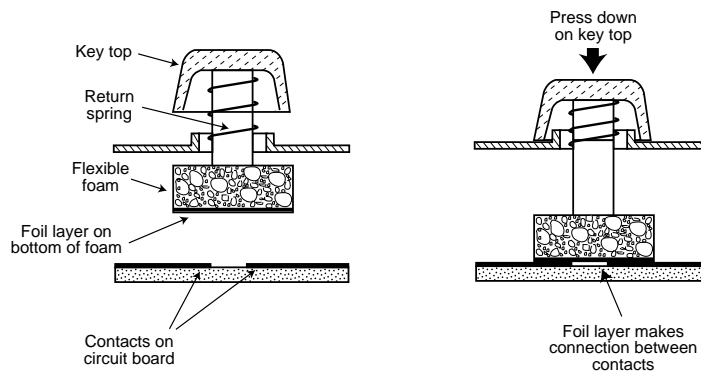

FIG. 9.5 Typical foam element mechanical key switch.
*Foam element* mechanical switches were a very popular design in some older keyboards. Most of the older compatible keyboards, including those made by Keytronics and many others, use this technology. These switches are characterized by a foam element with an electrical contact on the bottom that is mounted on the bottom of a plunger attached to the key itself (see Figure 9.5).